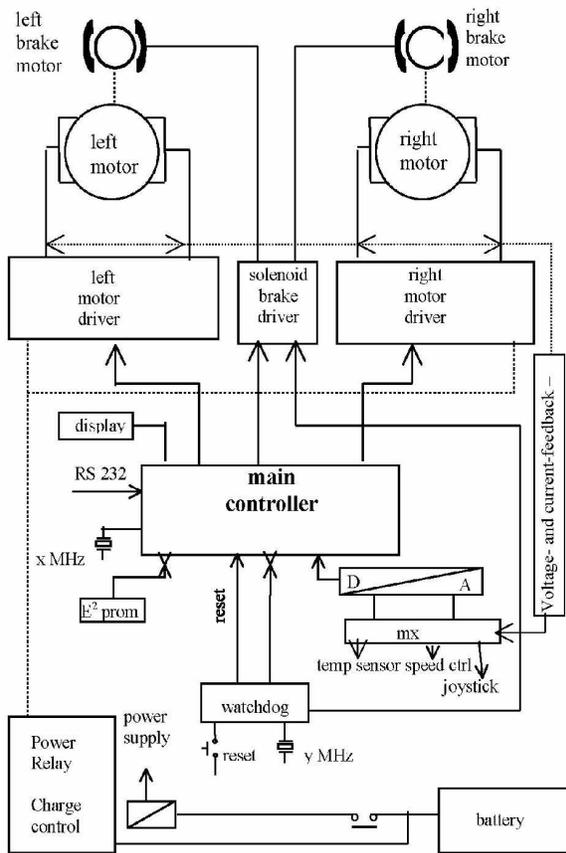

Figure 2. Wheelchair controller: Hardware structure
- Broadly speaking, the system can be in one of three states: off, standby and driving. In the standby state, the wheelchair is stationary with the solenoid brakes applied. Note: The solenoid brakes indicated in Figure 2 are not used for stopping the wheelchair normally. This is done by regenerating power from the motors
A typical hardware structure is shown in Figure 2. General safety measures are related to the process (safety risks):